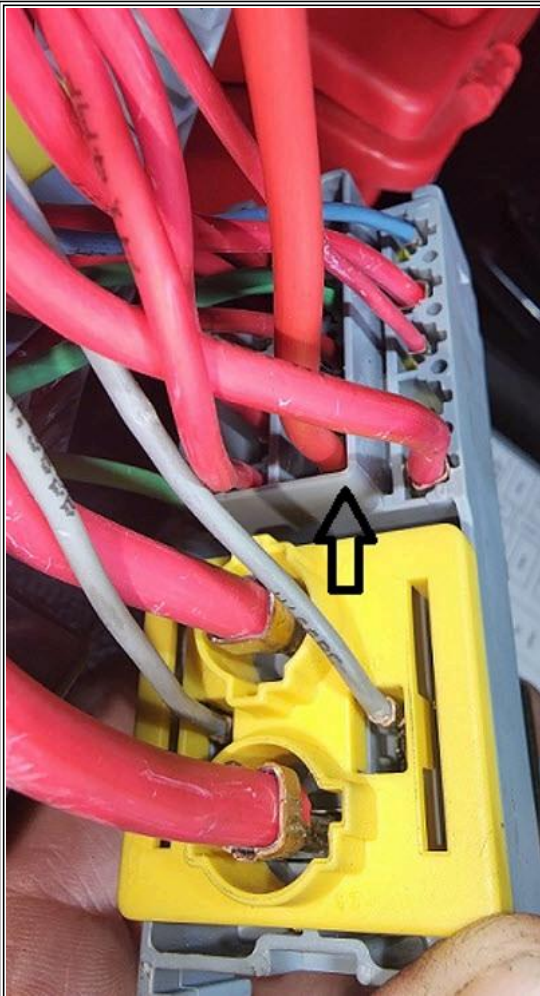

Figure 10: Overlay Harness Installed into Pin 13 of the Sleeper PDM (5001B). Fuse H2-E
8.) Install overlay B+ terminal into cavity 12 of the sleeper PDM (Figure 10)